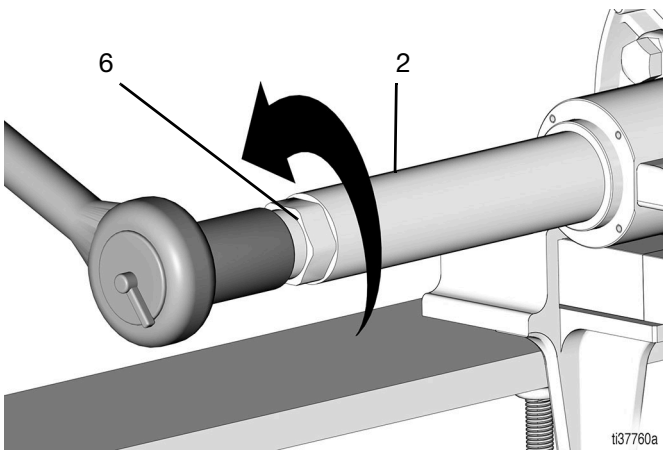

FIG. 10
12. Using a 1-7/16 in. socket, loosen the seal retainer (6) but leave it hand-tight in the to the pump cylinder (2) (FIG. 10).